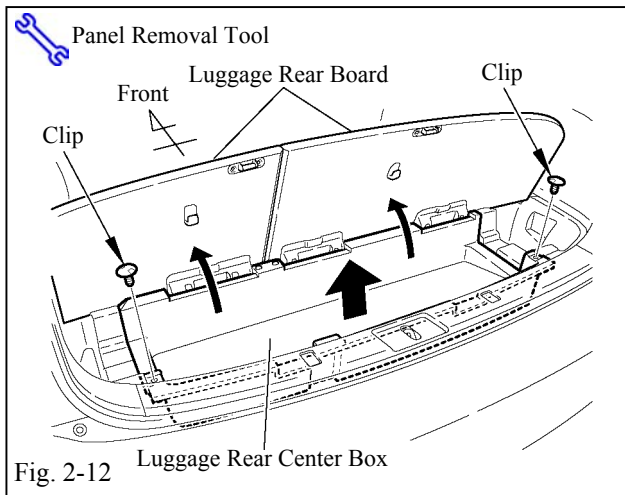

Fig. 2-12 Luggage Rear Center Box
- (m) Remove the luggage rear center box (Fig. 2-12).
- (1) Open the luggage rear board.
- (2) Detach the clips.